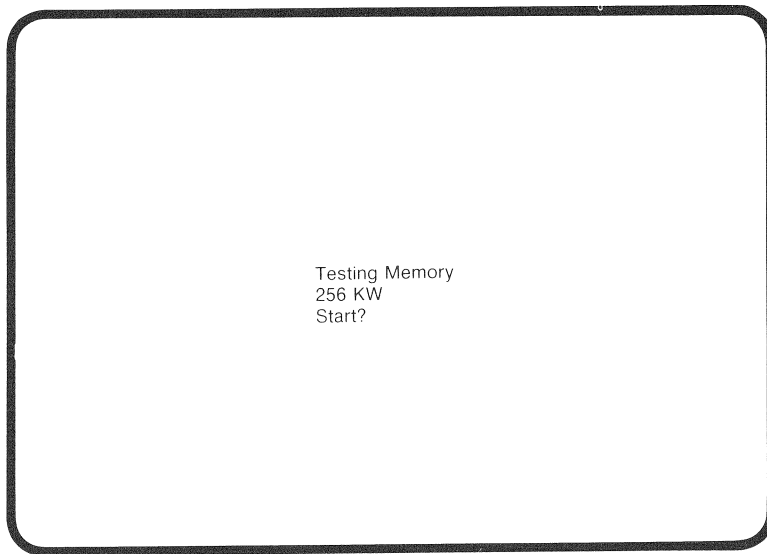

Figure 1-4 KDF11-BA Startup Message
- The KDF11-BA CPU powers up in Octal Debugging Technique (ODT) and displays a very abbreviated message (Figure 1-4).